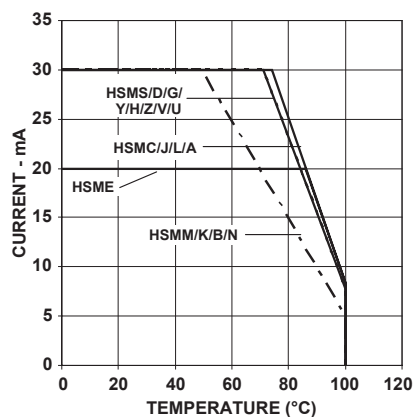

Figure 4. Maximum forward current vs. ambient temperature. Derated based on $T_JMAX = 110^{\circ}C$, $R\theta_{JA} = 500^{\circ}C/W$.
1. Derate linearly as shown in Figure 4.